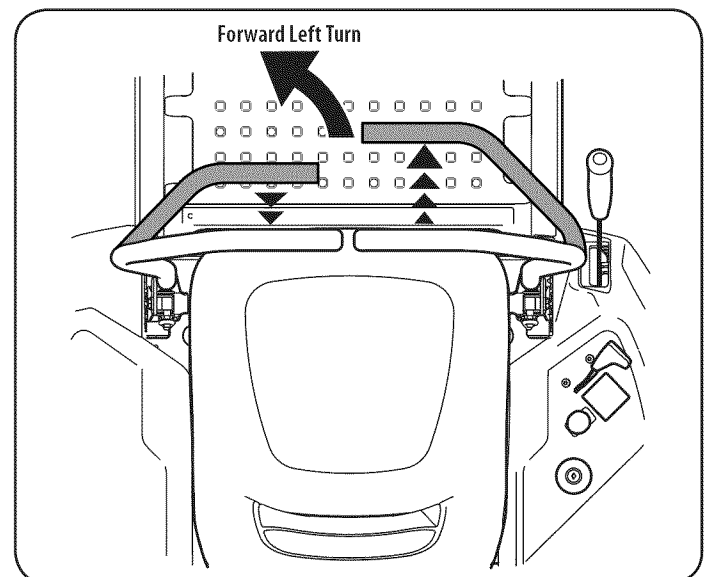

Figure 11
1. To turn to the left, move the left drive control lever rearward of the right lever. See Figure 11.